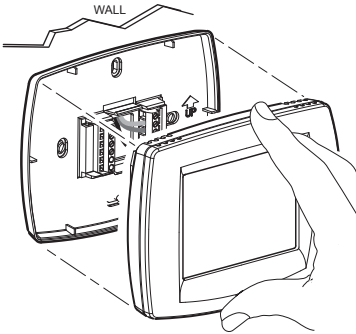

Fig. 4. Comfort Control
1. Loosen the terminal screws on the sub-base. Insert wires into the terminal block next to the loosened screw. See Figure 4.
- Push the Comfort Control straight onto the wall-plate. See Figure 4.